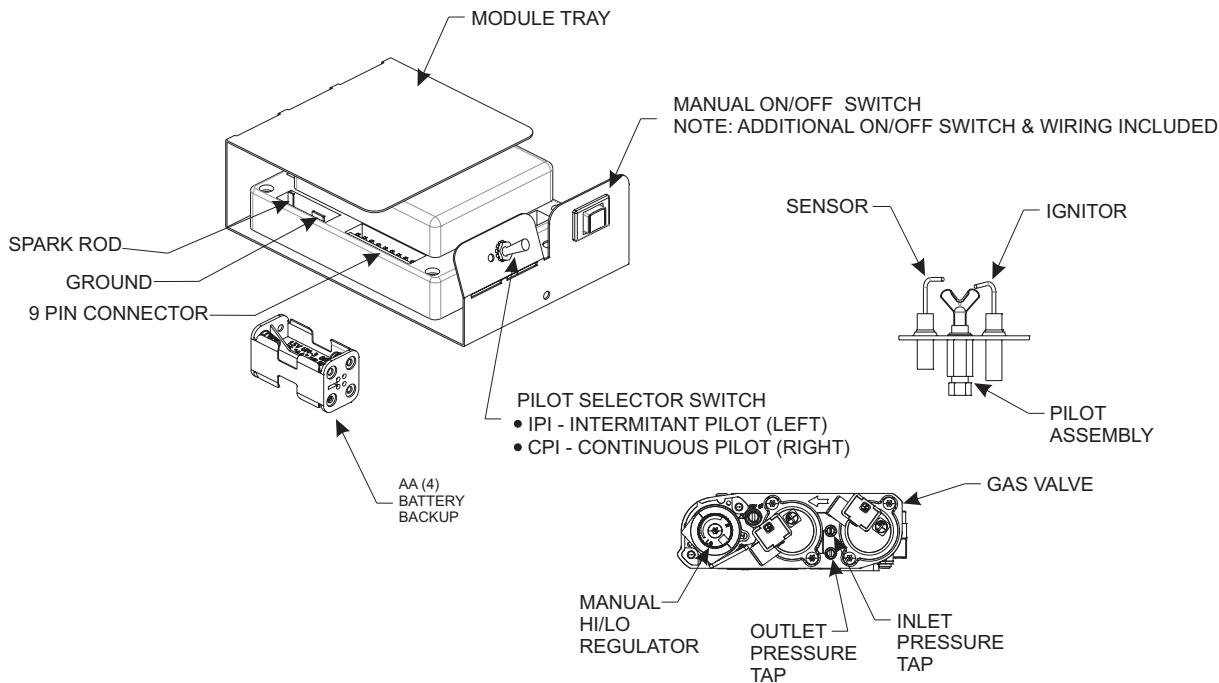

Figure 78
See Figure 78.
3. The gas valve has inlet and outlet pressure taps as shown in **Figure 78**. Refer to pages 8 and 17 for gas pressure requirements.
NOTICE: The gas control has a manual HI/LO flame adjustment knob (regulator) that allows you to increase or decrease the height of the burner flame. See Figure 78. Rotate the HI/LO knob counterclockwise to "HI" to increase the flame height, and clockwise to "LO" to decrease the flame height.
To connect the remote receiver to the appliance, first disconnect the ON/OFF switch wires from the white and green wire connectors and connect the wires from the remote receiver to the green and white wire connectors. **See Figure 78.**